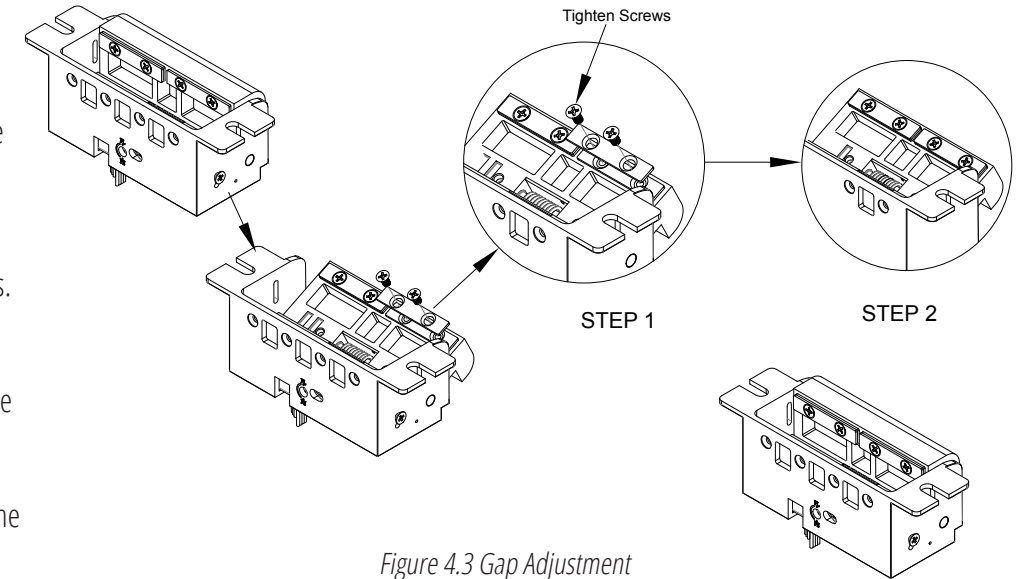

Figure 4.3 Gap Adjustment
1. First loosen and remove the two set screws that secure the keeper shims. (see Figure 4.3)